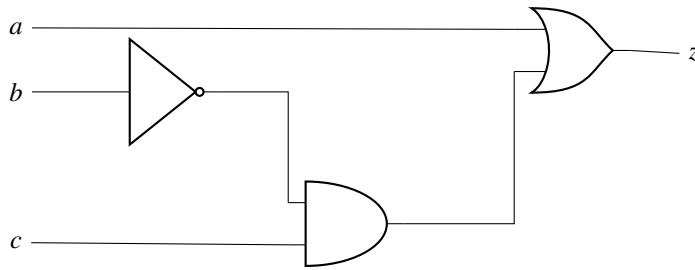

Fig. 3.35
53. Consider the Boolean function $Z(a, b, c)$. Which one of the following minterm lists represents the circuit given below in Fig. 3.35?